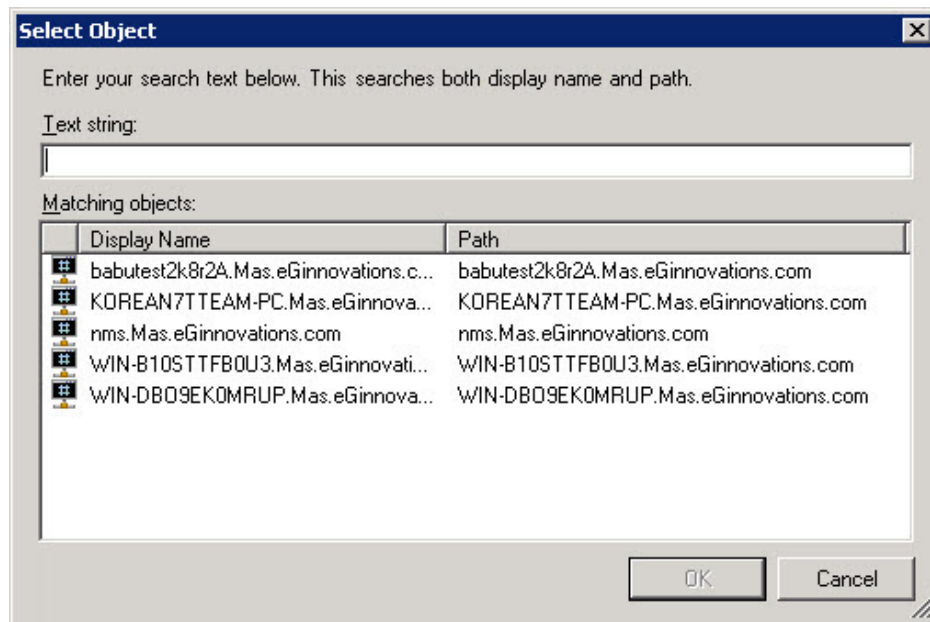

Figure 3.17: Selecting the server that hosts the eG SCOM Connector service
4. Figure 3.17 will then appear. From the list of **Matching objects** displayed here, pick the server that hosts the eG SCOM Connector. Then, click the **OK** button in Figure 3.17.